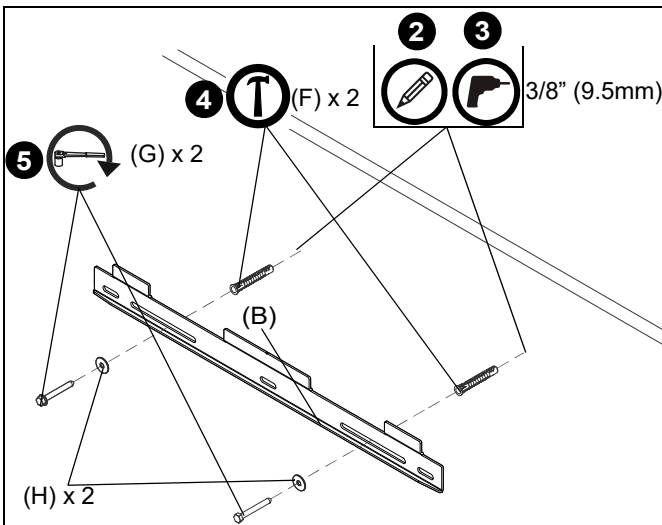

Figure 6
1. Place top bracket (B) against wall at desired mounting location 10 1/8" above the desired center of the screen. Use a level to ensure a level mount. (See Figure 6)
2. Mark hole locations at each mounting location near the center of each mounting slot. (See Figure 6)
3. Drill two 3/8" holes at marked hole locations. (See Figure 6)
4. Install a concrete anchor (F) into each pilot hole using a hammer, making sure that the anchor is flush with the wall. (See Figure 6)
5. Install two 5/16 x 2 1/2" hex head cap screws (G) through two 5/16" washers, holes on top bracket (B) and into concrete anchors (F). (See Figure 6)